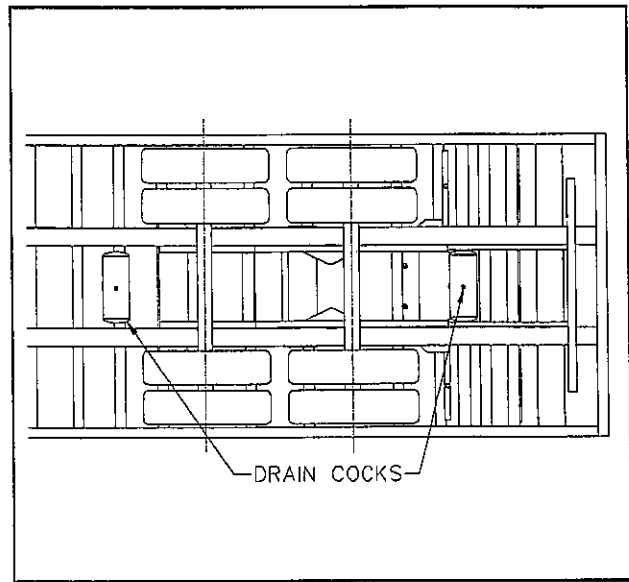

Figure 4-8 Drain Cock Locations
d. Drain air reservoir daily. A drain cock on the bottom of each air reservoir vents the tank to drain collected water and oil. If held open, air pressure in the tanks is relieved, causing the emergency or parking brakes to be applied (see Figure 4-8).